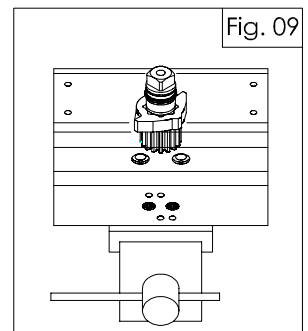

Fig. 09
- Ensure that the octi-cam is in the right position as shown in figure 09.